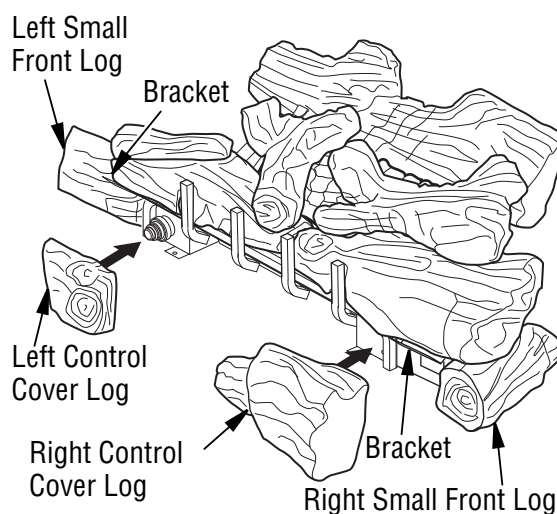

Figure 22 - Installing AndesMtn36 Model Control Cover Logs
7. For AndesMtn36, the front right and left logs are longer and are supported with brackets on each end (see **Figure 22**). Place left and right small front logs under left bracket and beside right bracket.